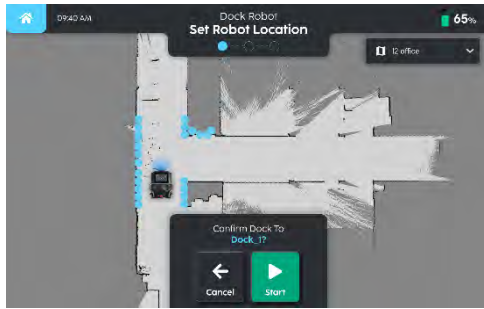

Fig. 5
2. Once Robot is localized select the docking station for docking (Fig 5).
3. Press 'Start' (Fig 5).